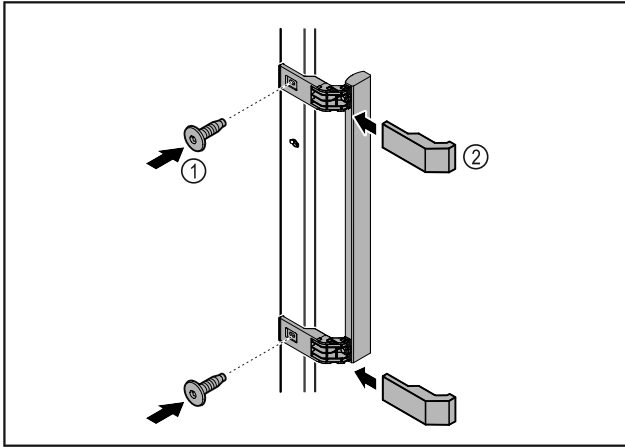

Fig. 50
- Attach handle from accessory kit to the door using the screws supplied Fig. 50 (1).
- Put on cover Fig. 50 (2).